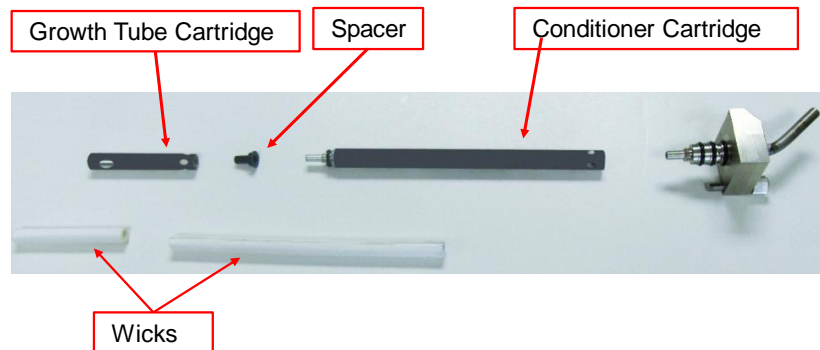

Figure 9-9
5. Unscrew the growth tube cartridge (short section) from the conditioner wick cartridge. If the insulator spacer detaches, reinstall it on the conditioner wick cartridge (longer section). Refer to Figure 9-9 showing disassembled parts of the wick assembly.